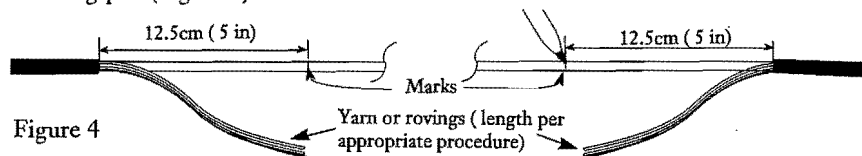

Figure 4
4.5 Place a mark 12.5 cm (5 in.) (or as required for the terminal you are installing) from the end of each side of the exposed section of buffer tube with a permanent marking pen (Figure 4).